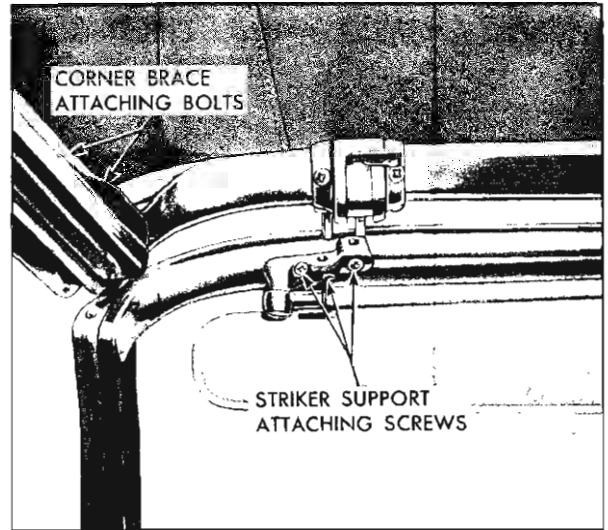

Fig. 21-24 Front Roof Rail Adjustment
2. Loosen striker support attaching screws and adjust striker as required; then tighten attaching screws (Fig. 21-24).